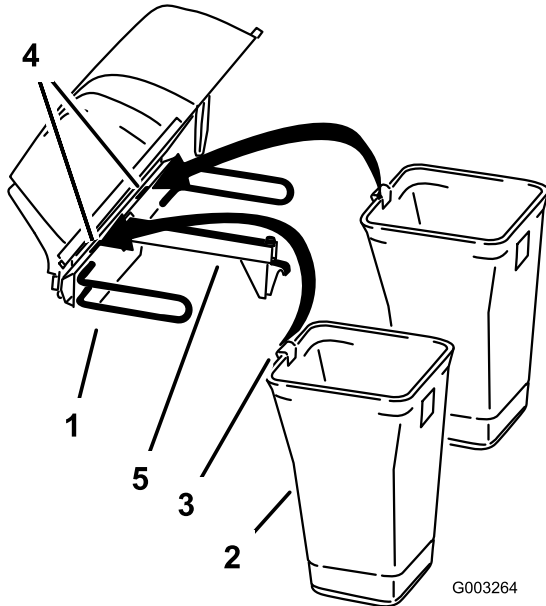
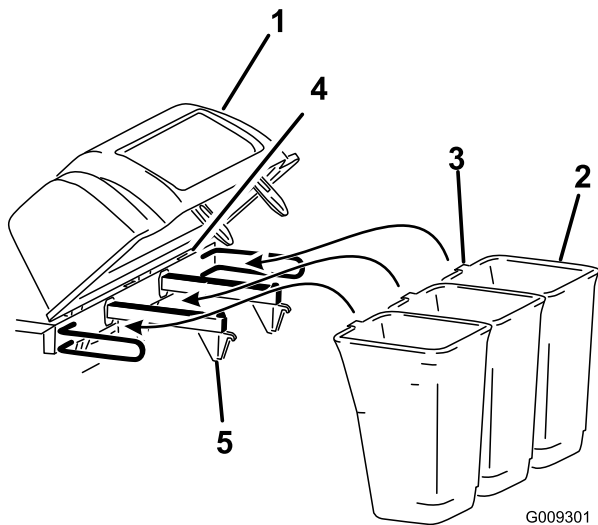

Figure 7
Figure 8
- Install the bag tab into the notch in the hood assembly (Figure 7 or Figure 8).